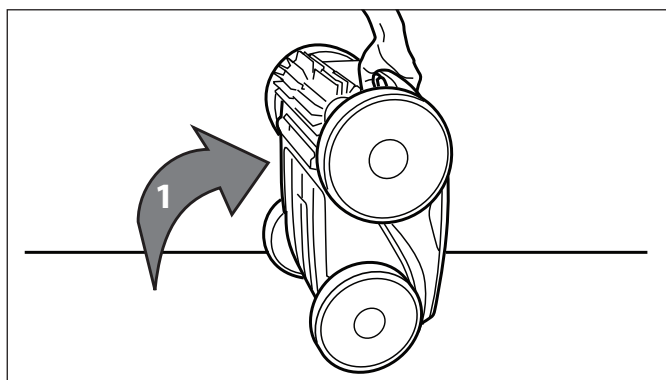

Figure 17. Cleaner in Upright Position
1. Lift the cleaner to a vertical position so that the handle is up (Figure 17).